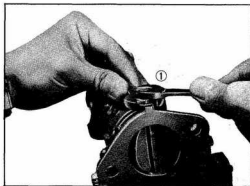

Fig. EF-41
- (1) Remove Nut as illustrated in Fig. EF-41 using 12 mm end wrench and 14 mm wrench paying attention not to cause torsion to the Throttle valve shaft.